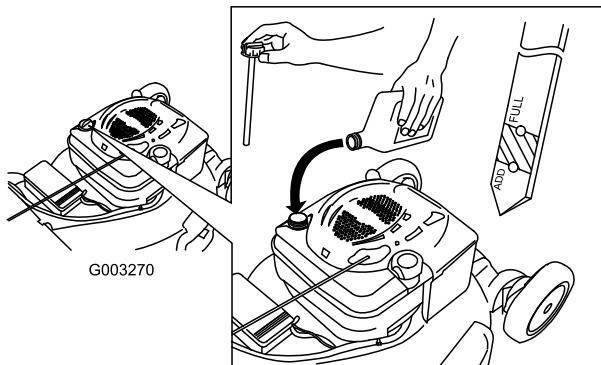

Figure 8
1. Remove the dipstick (Figure 8).
2. Slowly pour oil into the oil fill tube until the oil level reaches the Full line on the dipstick (Figure 8). **Do not overfill.** (Max. fill: 20 oz. (0.59 l), type: SAE 30W detergent oil with an API service classification of SF, SG, SH, SJ, SL, or higher.)